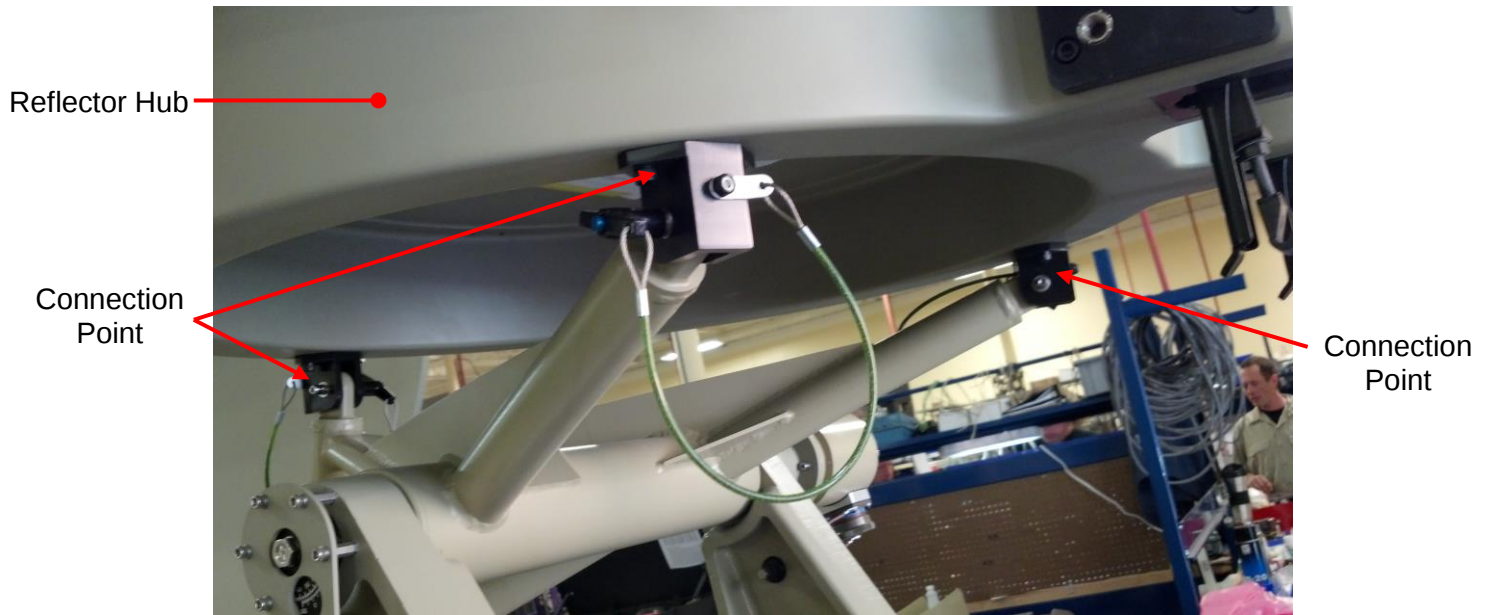

Figure 20. Attachment of Reflector Center Hub Panel
3. Connect the hub to the the elevation frame assembly using the three connection points on the underside of the hub panel with the captive ball detent pins as shown in Figure 20 on page 27.